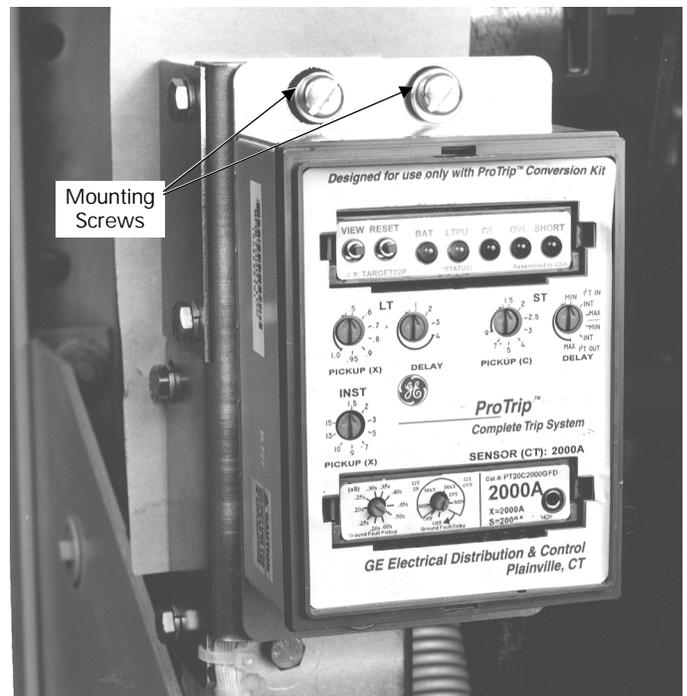

Figure 17. Trip unit mounted onto the breaker.
3. Place the trip unit and mounting plate in position on the support bracket mounted on the breaker. Secure with the three screws, lock washers, and flat washers through the holes in the mounting plate into the tapped holes in the bracket, as shown in Figure 17.